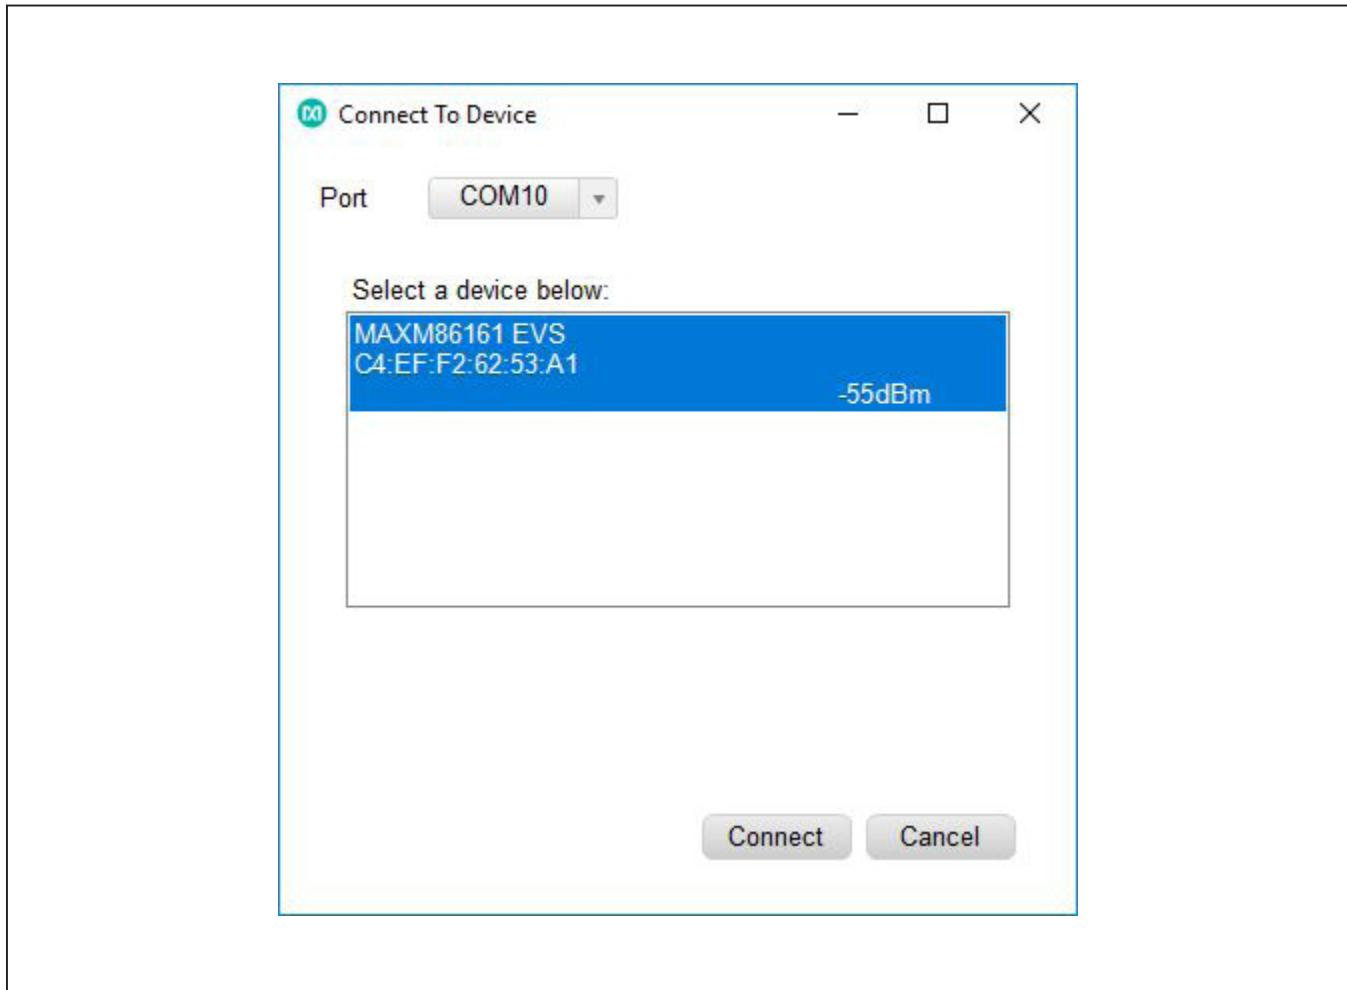

Figure 11. Connect to BLE Device
6) Press “Finish.” Next, the “Connect To Device” window appears. Choose your device and press “Connect” as shown in Figure 11.